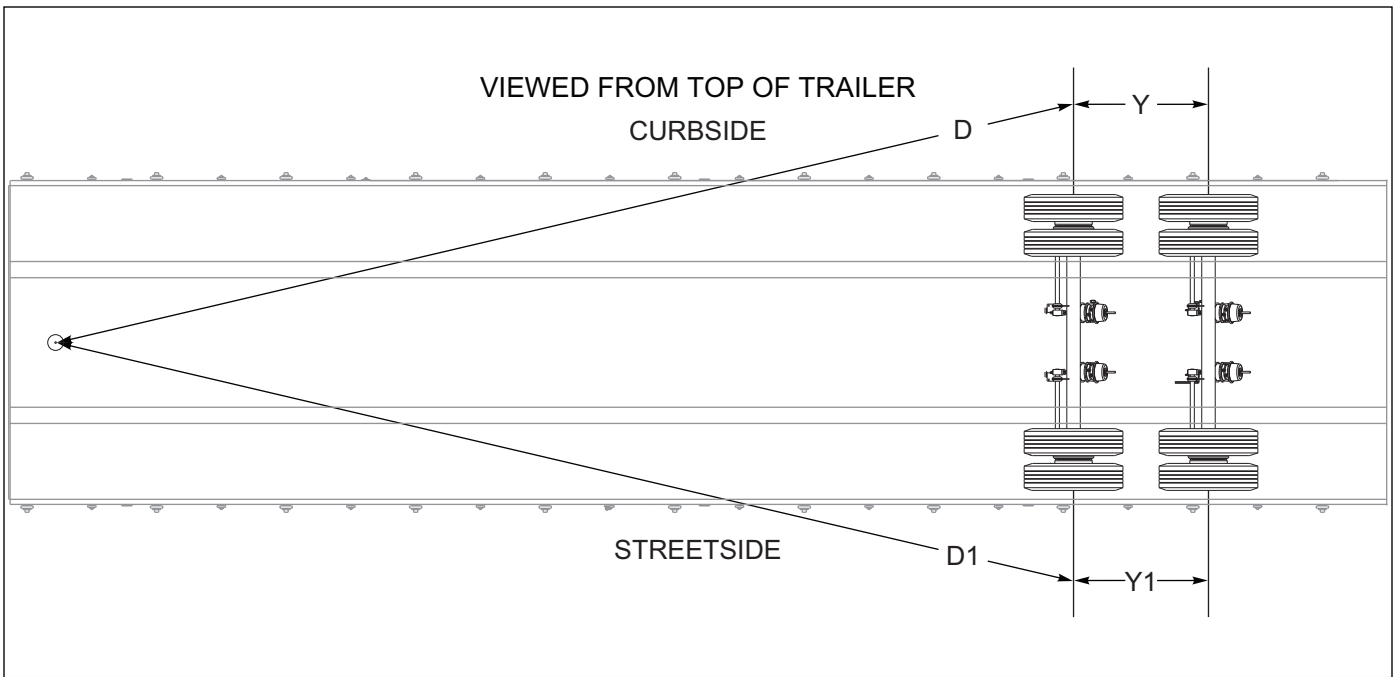

Figure 4-6: Checking Axle Alignment
4. Measure **Curbside (D)** from the plumb bob to the center point of the front curbside axle. Record this measurement (**See Figure 4-6.**)
5. Measure **Streetside (D1)** to the center point of the front streetside axle the same manner as in **Step 4.** Record this measurement (**See Figure 4-6.**)
6. Set **Curbside (D)** about 1/8” shorter than **Streetside (D1)** to insure proper trailer tracking on slope of road.